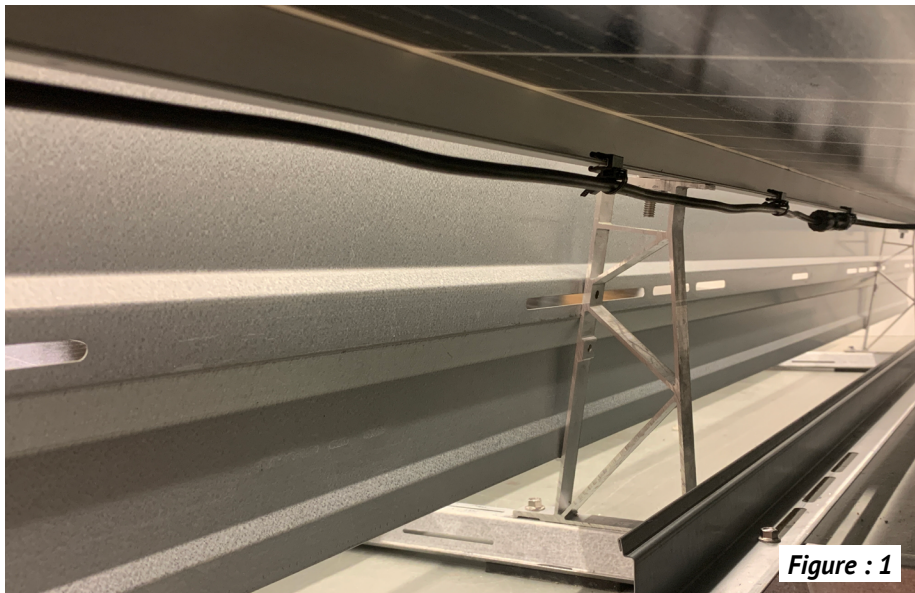

Figure : 1
- Route wires under modules using approved wire clips. *See figure 1.*